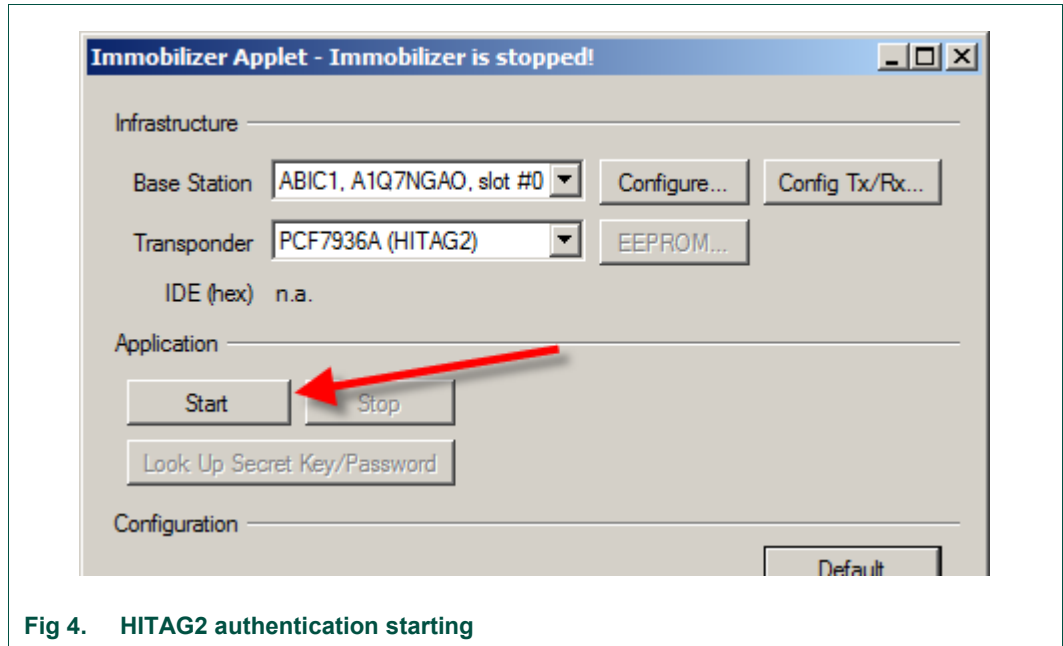

Fig 4. HITAG2 authentication starting
- Click the Start button to start the immobilizer applet form popping up (Fig 4).